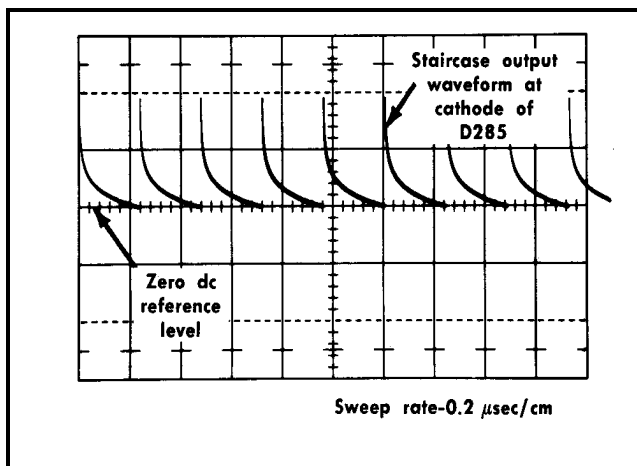

Fig. 5-12. Typical test oscilloscope display for checking adjustment of R270 (STAIRCASE DC LEVEL).
g. Check for a dc level of zero volts at the bottom of the main portion of the waveform (see Fig. 5-12).